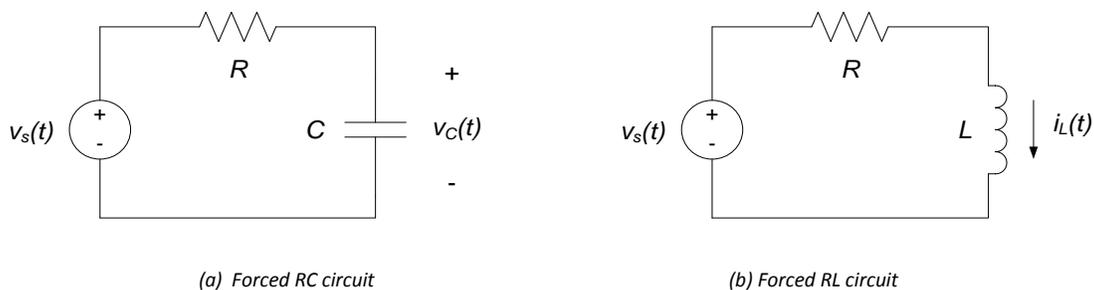

Figure 7.15. Forced first order circuit examples.
The differential equations governing the forced response of first order circuits are still, as implied, first order – thus, the circuits presented here will contain only a single energy storage element. Figure 7.15 shows two examples of forced first order circuits; Fig. 7.15(a) is a forced RC circuit and Fig. 7.15(b) is a forced RL circuit. The voltage sources $v_s(t)$ in Fig. 7.15 provide an arbitrary input voltage which can vary as a function of time. Without loss of generality, we will concern ourselves only with determining the forced response of the voltages across capacitors or the currents through inductors. In spite of the simplicity of the circuits shown in Fig. 7.15, their analysis provides a framework within which to place the analysis of an arbitrary first order electrical circuit. These two circuits are, therefore, analyzed below in order to present the forced solution of an arbitrary first order differential equation.
Examples of this concept, in the context of Fig. 7.15 include:
- The voltage drop across the resistor in Fig. 7.15(a) is: $v_R(t) = v_s(t) - v_c(t)$
- The current through the capacitor in Fig. 7.15(a) is: $i_C(t) = \frac{v_s(t) - v_c(t)}{R}$
- The voltage drop across the resistor in Fig. 7.15(b) is: $V_R(t) = Ri_L(t)$
KCL at the positive terminal of the capacitor of the circuit shown in Fig. 7.15(a) provides:
Dividing through by the capacitance, C , and grouping terms results in the governing differential equation for the circuit of Fig. 7.15(a):
KVL around the loop of the circuit of Fig. 7.15(b) results in:
Dividing through by the inductance, L , and rearranging results in the governing differential equation for the circuit of Fig. 7.15(b):
As in the first order circuit natural response, the resistance in the time constant of equation (7.37) can be more generally defined as the equivalent overall resistance of the circuit as seen by the energy storage element. This conclusion follows directly from Thévenin's theorem. The circuits of Fig. 7.15 consist of energy storage elements (a capacitor and an inductor) which are connected to a circuit which can be considered to be the Thévenin equivalent circuit of a more complex circuit. Thus, the resistance R in the circuits of Fig. 7.15 can be the equivalent (Thévenin) resistance of an arbitrary linear circuit to which an energy storage element is connected. Thus, the resistances in the governing differential equations (7.37) and (7.39) can be considered to be Thévenin equivalent resistances. These equations thus can be written as: